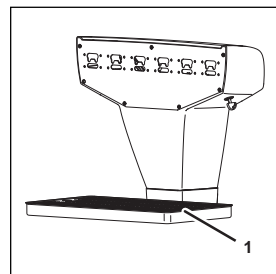

Fig. 8
3. Check that the drip tray (Fig. 8/1) is positioned properly on the unit.